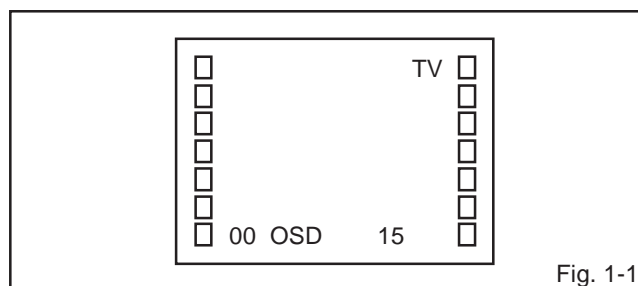

Fig. 1-1
Press the VOL. DOWN button on the set and the Channel button (9) on the remote control for more than 1 second to appear the adjustment mode on the screen as shown in Fig. 1-1.
3. Activate the adjustment mode display of Fig. 1-1 and press the channel button (02) on the remote control to select "RF. AGC".